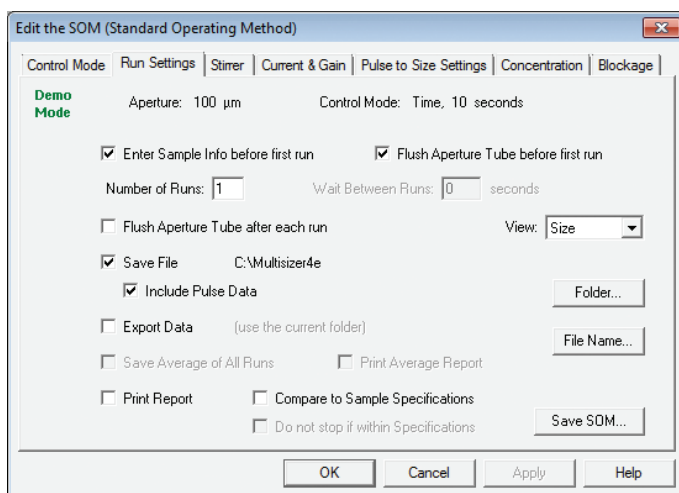

Figure 4
2. When satisfied with Preview, cancel it and run three blanks using the same Control Mode that will be used in your SOM when formally running the samples, e.g., Volumetric or Time mode; flush before run, etc. See Figure 4 below.